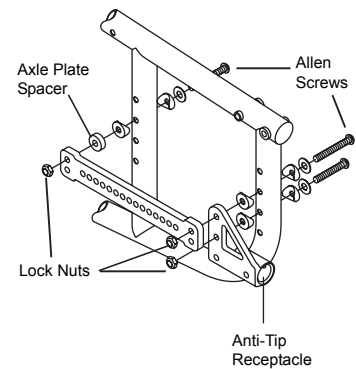

Figure 128
2. Remove all three (3) Allen Screws that secure the adjustable axle plate to the frame. Carefully note the placement of the plate and the order of the various washers and nuts.
3. Install the anti-tip receptacle as shown in Figure 128. Note that the axle plate spacer must be added between the adjustable axle plate and the frame at the forward end of the adjustable axle plate.